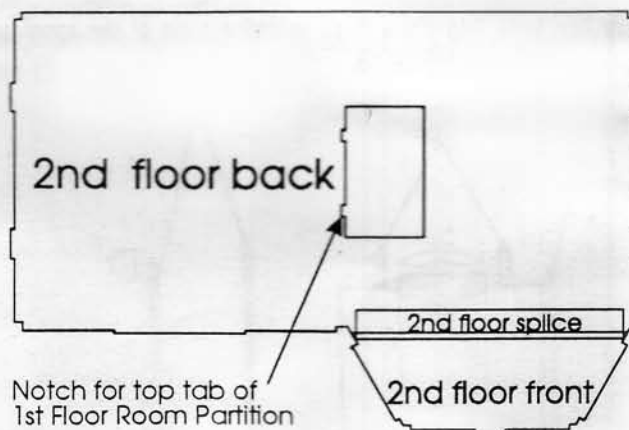

Figure 17
2. Splice 2nd Floor- Lay the 2nd Floor Back and Front on the table with the good side up and tape the junction line. Turn the floor assembly over and glue the 2nd Floor Splices in place as in Figure 17.